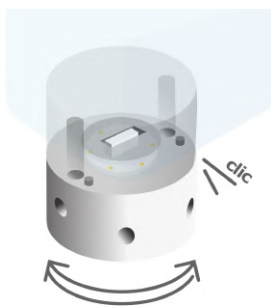

FIGURE 4.16 – Turn the valve until the pins are aligned
5. Turn the valve until the pins of the valve are aligned with the matching bores on the pump (see Figure 4.16).